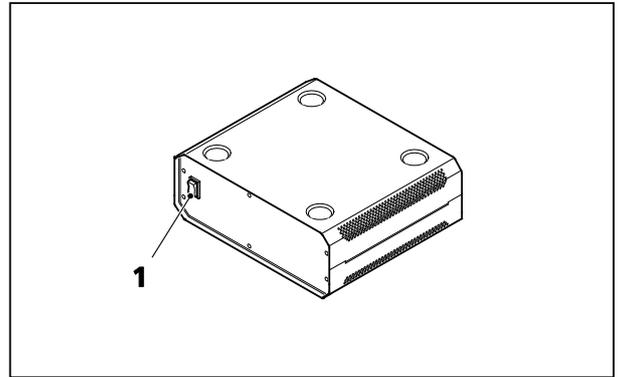

Fig. 7 External power unit VP232-2 of the Axio Observer 7 materials
- Turn on the power supply VP232-2 using the power switch (Fig. 7/1).